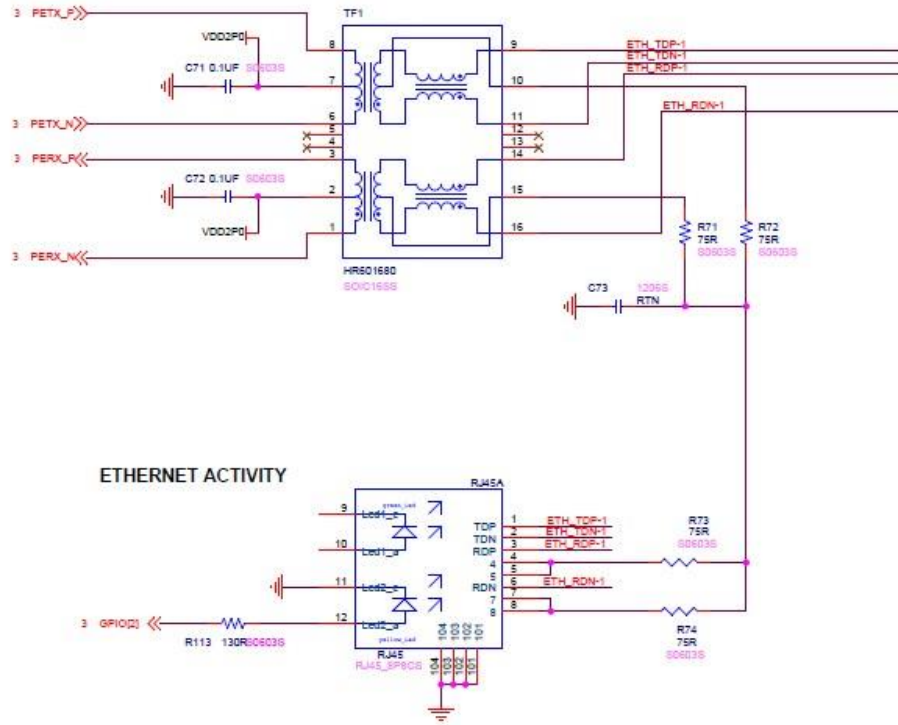

Figure 6 Ethernet Port Circuit
LX-PB is the evaluation board for LX200V20. It has all the interfaces that design needs. The interface contains RJ-45 Ethernet Port, +12V~+15V DC-DC,3.3V BUCK,Connector of DC power supply, transformer etc. This board is just for customer to quickly evaluate the performance of PLC module. Customers don't need to care for the size of evaluation board because you can make you own board based on our reference design. The LX-PB board was shown like Figure 6:
2) Ethernet Port circuit, Like Figure 6 as below: